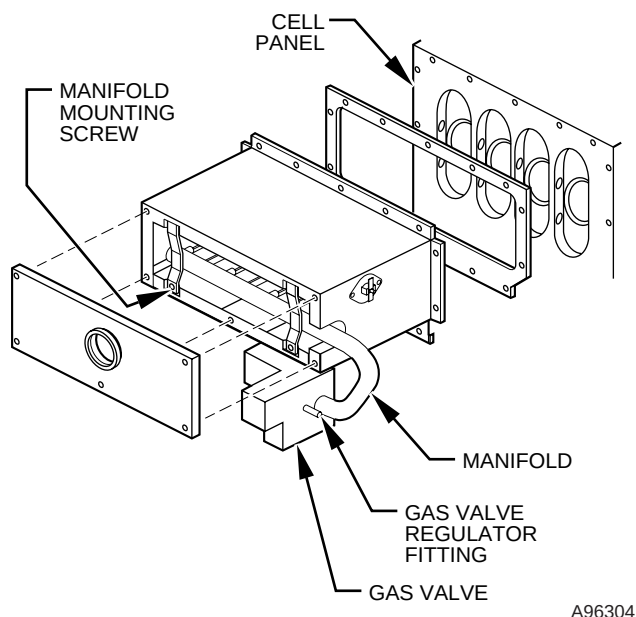

Fig. 5—Burner Box Assembly
7. Remove screws that secure manifold to burner box. (See Fig. 5.)
10. Remove screws attaching burner box to cell panel. (See Fig. 5.)
NOTE: Be sure burner box gasket is installed between burner box and cell panel. (See Fig. 5.) If gasket is damaged, replace it.